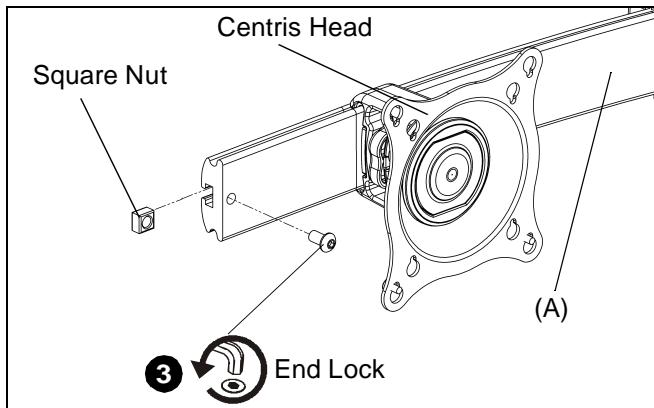

Figure 6
1. Uninstall end lock using the 5/32" hex key (R). (See Figure 6)